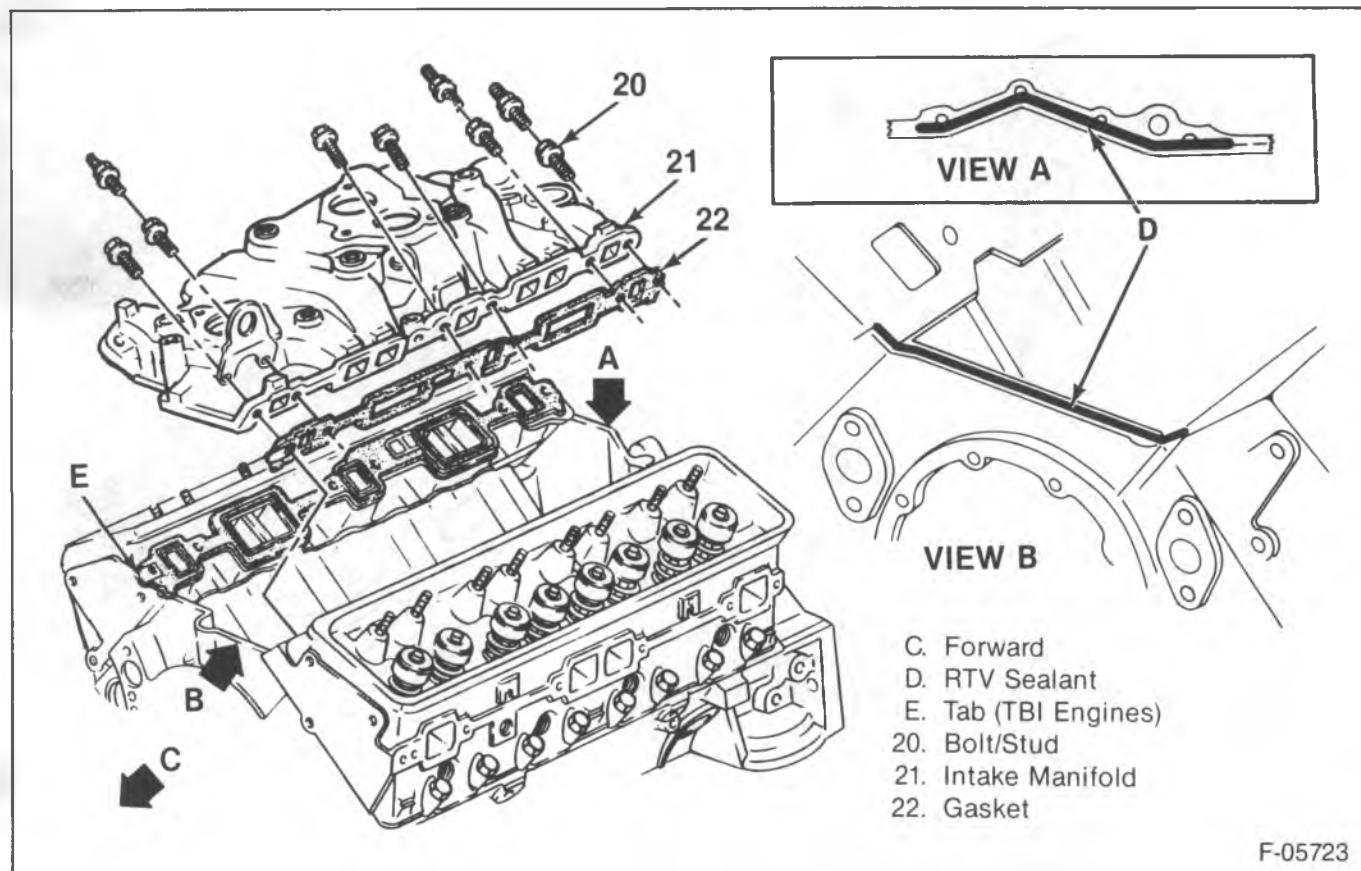

Figure 74—Intake Manifold (5.0L and 5.7L Engines)
→ Install or Connect (Figures 74 and 75)
- Refer to figure 74.